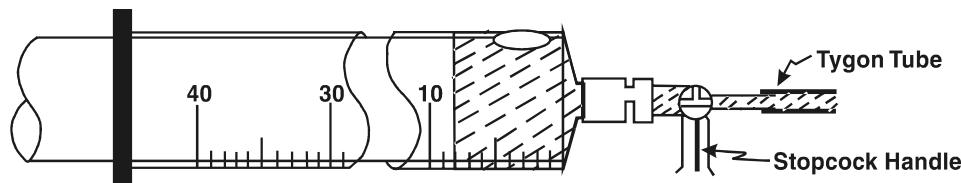

Figure 27.—Sample Syringe (Filling).
- Slowly turn the syringe stopcock handle so that the handle points to the flushing port (figure 27). This closes the flushing and allows oil to flow into the sample syringe. Do not pull the syringe handle; this will create a vacuum and allow bubbles to form. The syringe handle (piston) should back out very slowly. If it moves too fast, adjust the small 1/8-inch valve until the syringe slows, and hold your hand on the back of the piston so you can control the travel.